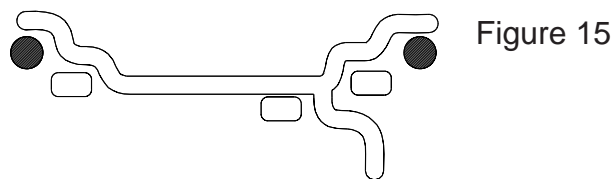

Figure 15
A. DYNAMIC (two planes), suggested for all steel rims. In this case the wheel weights must be clipped onto the rim edges. This function is selected as a default and the LEDs corresponding to the wheel weight location are lit on (Figure 15).